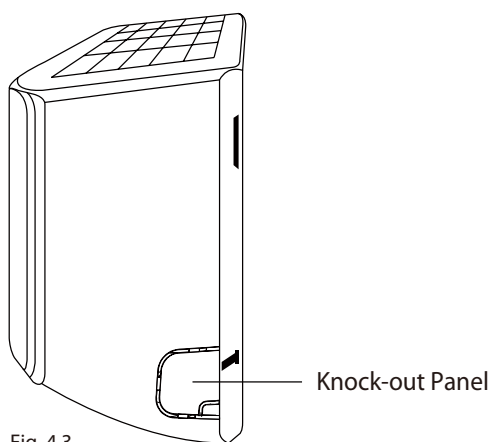

Fig. 4.3
2. If the wall hole is behind the unit, keep the knock-out panel in place. If the wall hole is to the side of the indoor unit, remove the plastic knock-out panel from that side of the unit. (See Fig. 4.3). This will create a slot through which your piping can exit the unit. Use needle nose pliers if the plastic panel is too difficult to remove by hand.